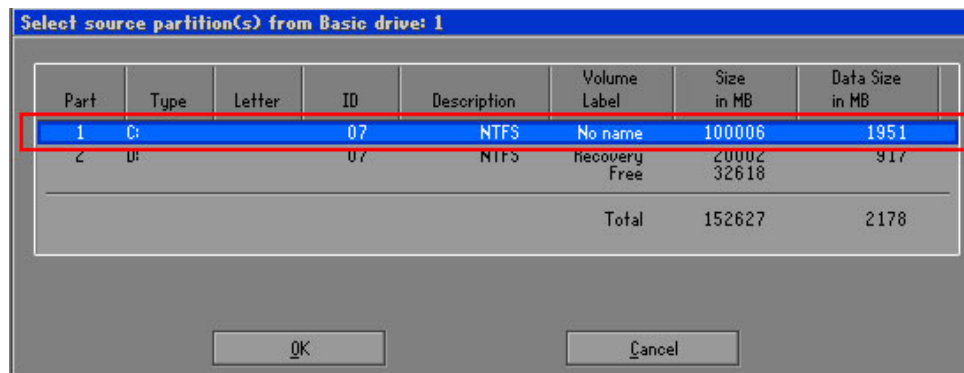

Figure A-15: Select a Source Partition from Basic Drive
Step 6: Select a source partition (Part 1) from basic drive as shown in **Figure A-15**.